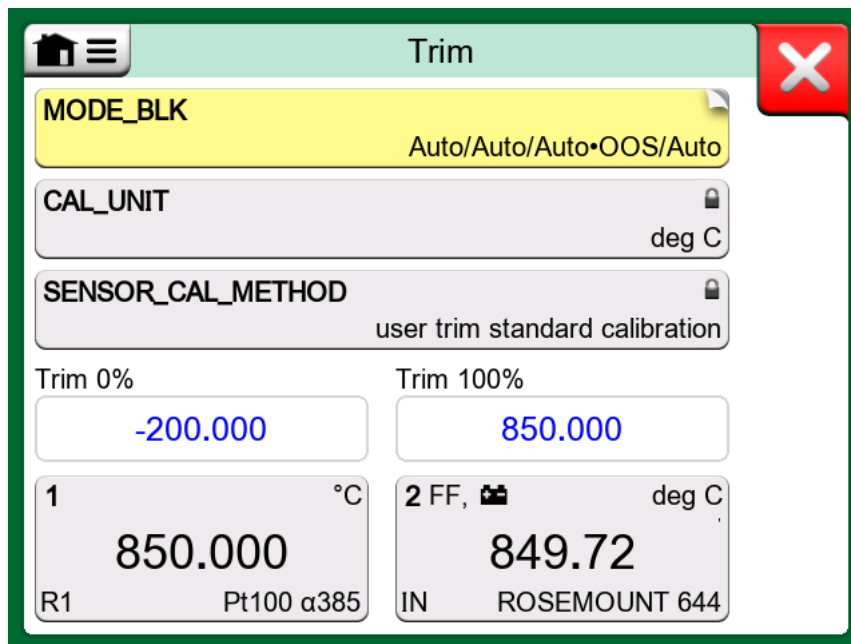

Figure 163: Fieldbus instrument Trim window example
The **Start Trimming** menu option opens a window similar to the Figure 163: Fieldbus instrument Trim window example. The list of Blocks and Parameters displayed depends on instrument's Device Description file. The lower part of the window will display channels showing the instrument's input (1) and output (2) readings.